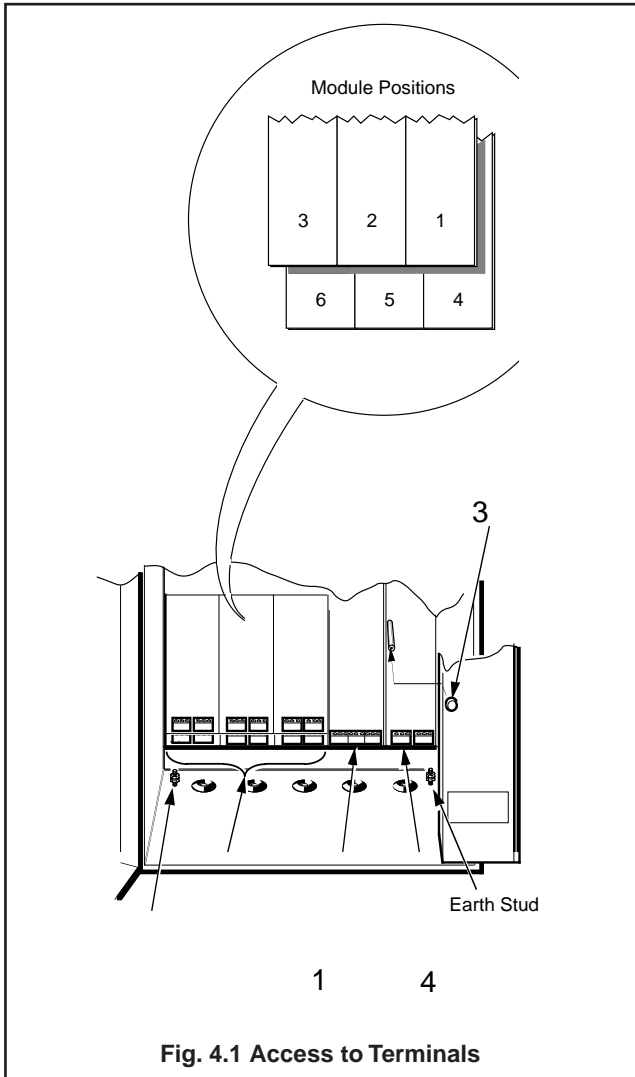

Fig. 4.1 Access to Terminals
4.1 Access to Terminals – Fig. 4.1
- ③ Undo the knurled captive screw retaining the protection cover and remove the cover. Take care not to stress the earthing cable connecting cover to case.
- ④ Identify the power supply terminal block.
- c) Always route signal leads and power cables separately, preferably in earthed metal conduit. It is strongly recommended that, for signal inputs and relay connections, screened cable is used, with the screen connected to the earth stud(s) – see Fig. 4.1.
Up to two isolated input modules, type K, may be fitted to the recorder, occupying module position 2, for channel 2, and/or position 3 for channel 3 (see Fig. 4.1).